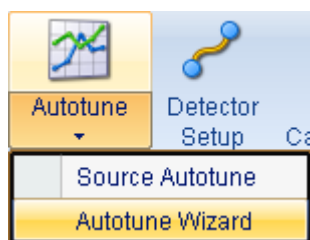

Figure 4-48. Autotune drop-down menu
3. In the **Wizard** group, click  (arrow next to or below Autotune) to open the drop-down menu, see Figure 4-48.